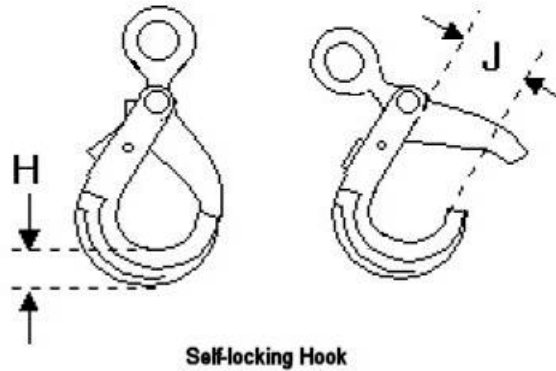

Figure 10. Dimension for Hooks
- c. Check hook dimensions (see table 3 and figure 10).